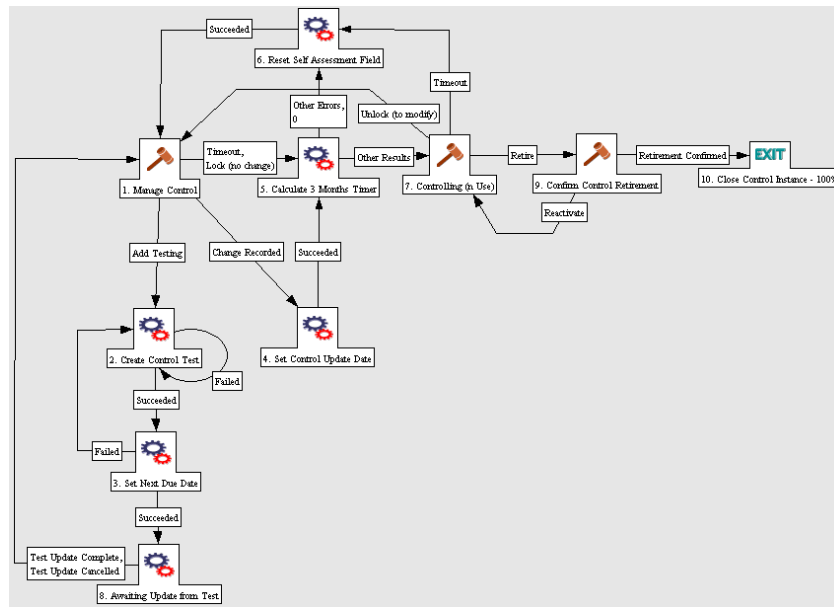

Figure 4-7. Control instance lifecycle
- *Figure 4-7* shows the control instance lifecycle.